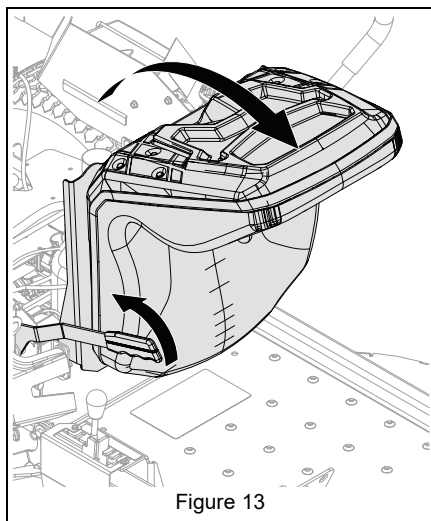

Figure 13
7. Rotate seat forward. See Figure 13.